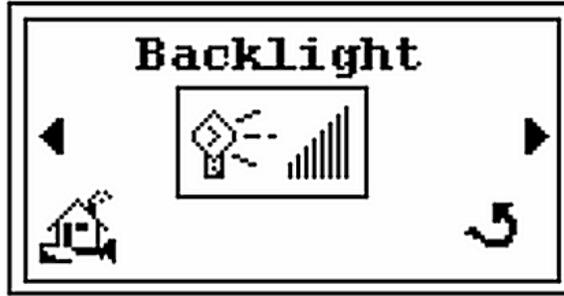

Figure 2-12 Backlight Screen
2. Press the  and the *Backlight* screen appears (Figure 2-12).